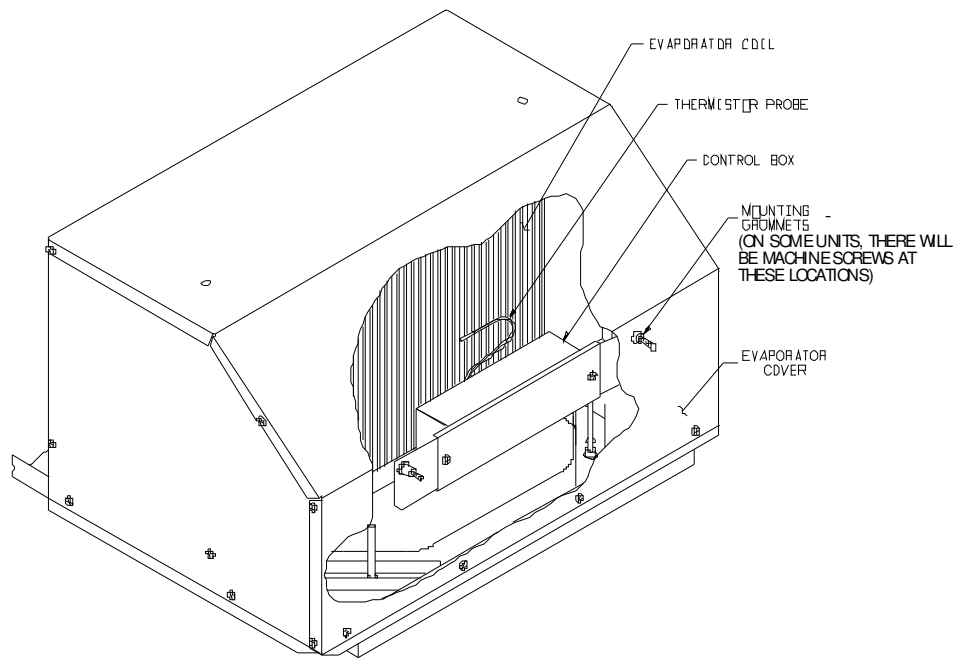

FIGURE 2
B. Mounting the Wirebox (See Figure 2)
2. Insert the freeze circuit thermistor probe into the roof top unit evaporator coil. Verify that the probe is located in the coil properly (See Figure 2 or 3).